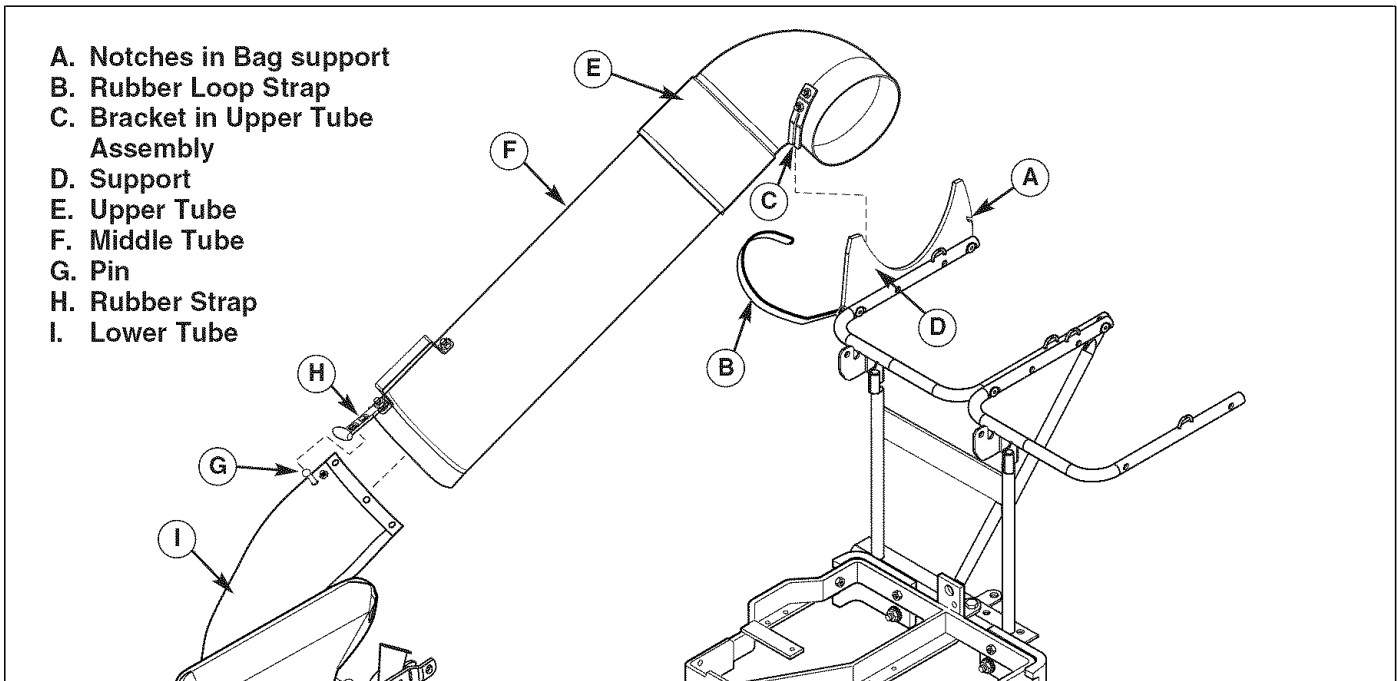

Figure 9. Upper Tube Assembly Installation (Hopper Top Not Shown for Clarity)
1. Set middle tube (F, Figures 9 & 10) and upper tube (E) into bag support (D) so that bracket (C) rests in support (D). Pull rubber loop strap (B) over upper tube and secure into notch (A).
2. Slide middle tube assembly (E, Figure 9) onto lower tube (F).
3. Slide middle tube (F) over lower tube (I). Pull rubber strap (H) and place hole completely over pin (G).